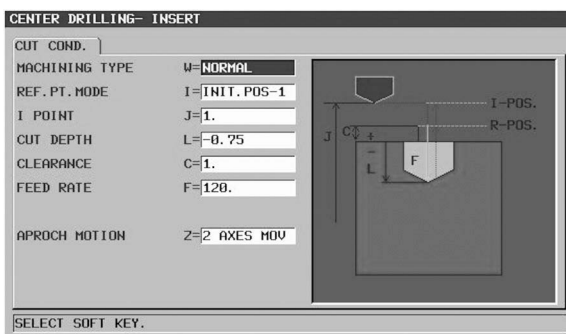

Figure 7-64 CENTER DRILLING
- Complete the CUT CONDITIONS dialog, per Figure 7-64.